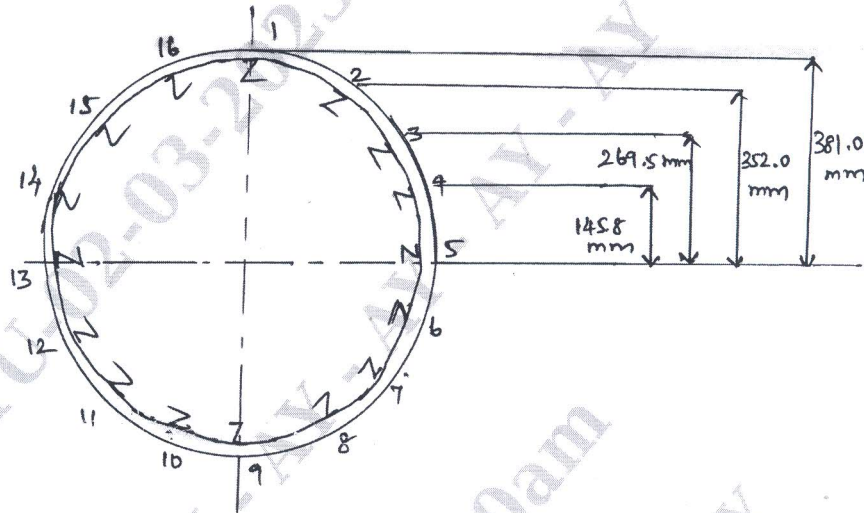

Fig Q10(b)
- b. The fuselage of a light passenger carrying air craft has the circular cross section shown in Fig Q10(b). The cross sectional area of each stringer is 100mm^2 and the vertical distances in the Fig 10(b) are to mid line of the section wall at the corresponding stringer position. If the fuselage is subjected to a bending moment of 200kNm applied in the vertical plane of symmetry at this section, calculate the direct stress distribution and distance between idealized section booms are 149.6mm .